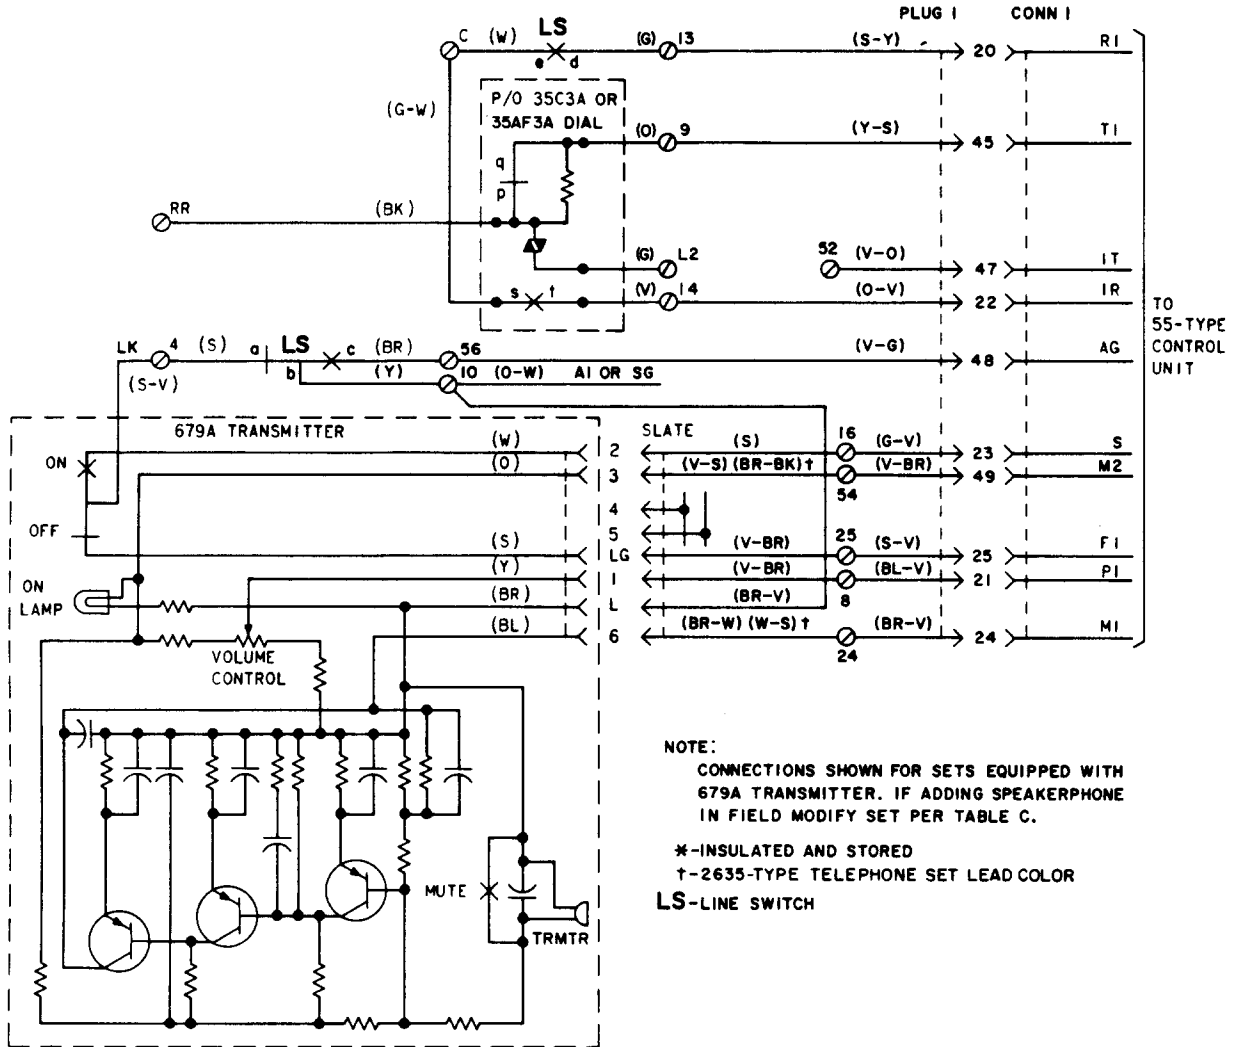

Fig. 5 — 3-Type (MD) Speakerphone Connections
**2.09** For 3-type (MD) speakerphone operation, a 679A transmitter may be installed in 3rd or 5th module of 2634- or 2635-type set, respectively. For necessary wiring changes and connections, see Table C and Fig. 5.
Note 2: Connect the slate plug from the 3rd or 5th module to the 679A transmitter (Fig. 5). All other plugs in the module are insulated and stored.